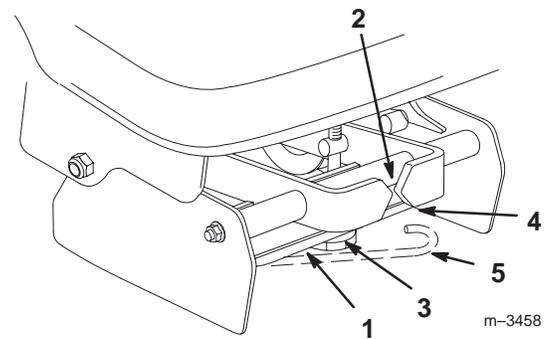

Figure 33
- Check the tension indicators on the front of the pulley box. If the tension indicators do not line up, release the belt tension and turn the adjustment knob. Push the belt tension release arm back toward the pulley box to tension the belt (Fig. 33).
- Swing the tension release arm into the pulley box by moving it into the position shown in Figure 33.